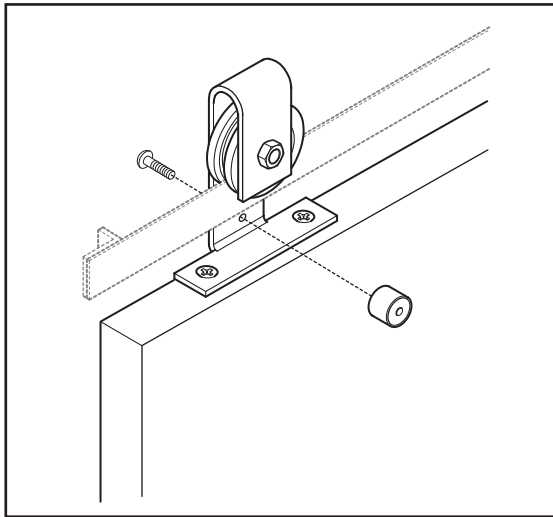

Figure 3
2. Install the anti-jump block (J.) on the back of the hanger using the provided socket screw (Figure 3).